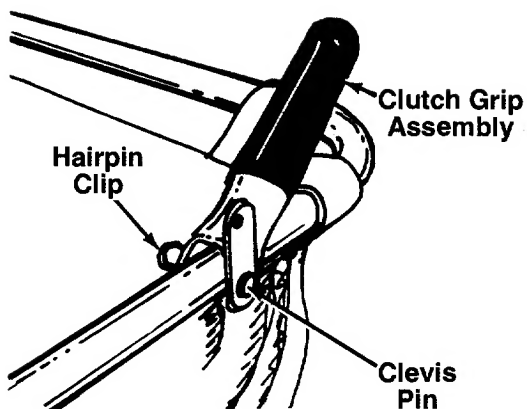

FIGURE 9.
1. Assemble the clutch grip to the left hand side of upper handle. Secure in place with clevis pin and hairpin clip. See figure 9. Head of clevis pin should be to the outside of handle.